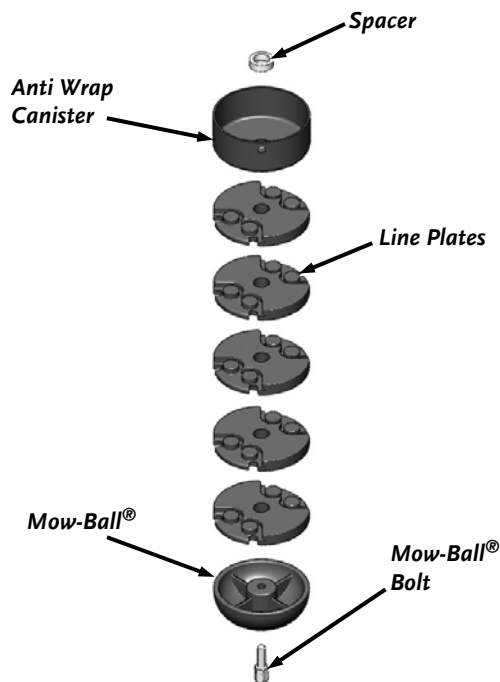

Figure 24
Improper installation can cause damage to the trimmer bearings. Follow these directions carefully to protect your machine from damage. Reassemble the components in the order shown in **figure 24**.
6. Place the Spacer and Anti Wrap Canister (with the lip facing up) onto the Shaft (**Figure 24**).